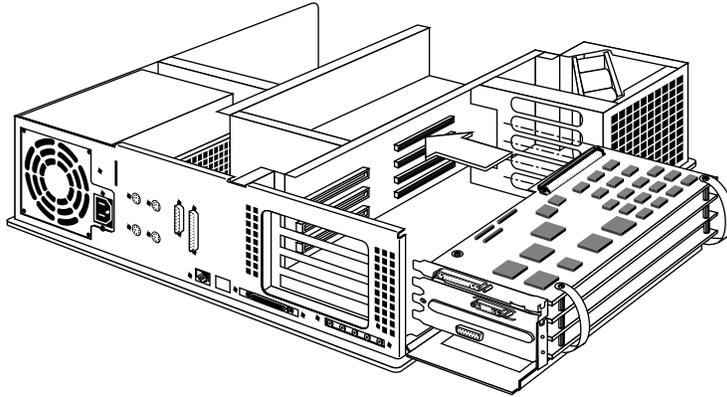

Figure 1-23 Aligning the Board Set With the Chassis
1. Align the board set with the slots on the left side of the chassis See Figure 1-23.